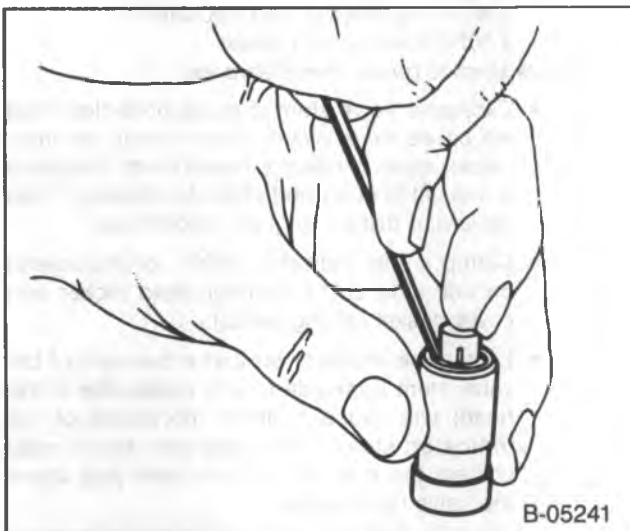

Figure 27—Installing the Check Ball Retainer (Typical)
1. Check ball (225) to the small hole in the bottom of the plunger (226).
2. Check ball spring (225) to the check ball retainer (223).
3. Check ball retainer (223) with check ball spring (224) to the plunger (226). Make sure the spring rests on the ball. Carefully press the retainer into position in the plunger with the blade of a small screwdriver (figure 27). Make sure it seats tightly against the plunger.
4. Plunger spring (222) to the check ball retainer (223).
5. Lifter body (221) to the plunger (226).